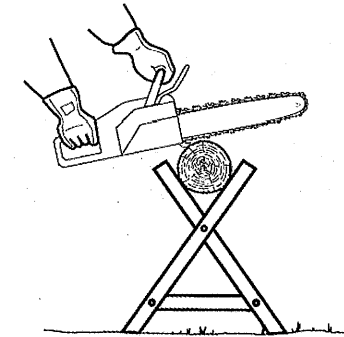

Fig. 41
5. Support small logs on a sawing stand or another log while bucking (Fig. 41).